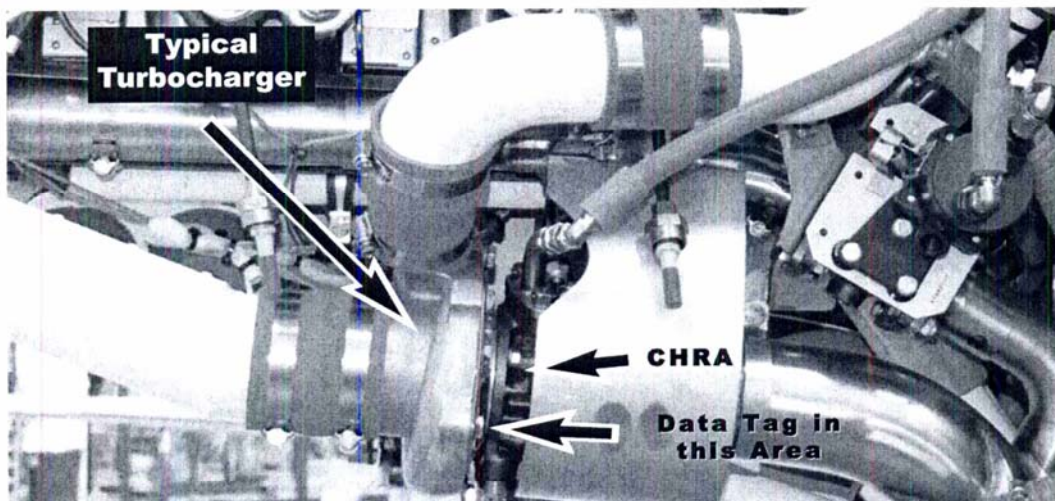

Figure 1 - Typical Turbo Installation
2. Refer to Table 1 to determine if the turbocharger being inspected is an affected part number. Observe the part number found on the data plate. If the affected part number **does not** appear, go to the "Return to Service" section step 3 & 4. If an affected part number **does** appear, continue with step 3. (See Figure 1 for typical turbocharger installation.)